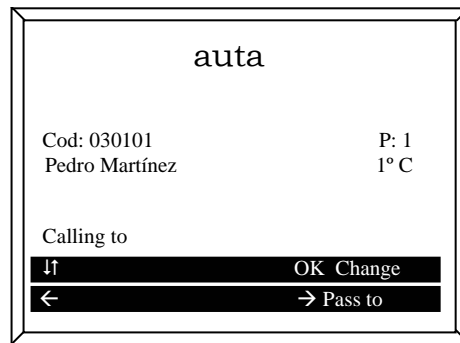

Figure 4. Call from panel to a flat.
- The screen of the SB will show information about the flat the call is addressed to, and also about the number of the panel the call comes from (see figure 4). This information will be shown over a blue screen if the panel is an audio panel, or over the video of the panel's camera if this is a video panel.